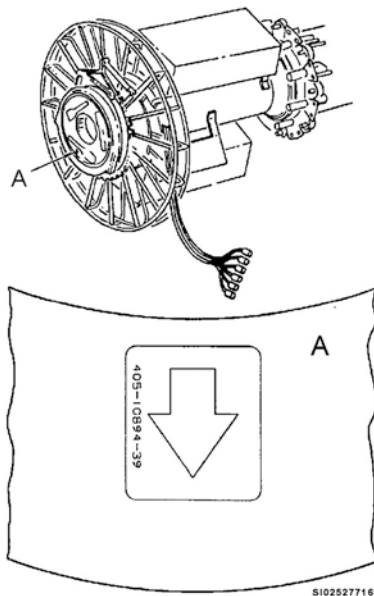

Figure 3-11. Arrow decal on launcher forward end.
3. Rotate the launcher forward end plate until the arrow points down (fig. 3-11). The end plate and wire harness cage are under a slight tension and will tend to rotate somewhat on their own. To prevent this, secure this position by connecting a tie-down strap from the LLA to the wire harness cage.